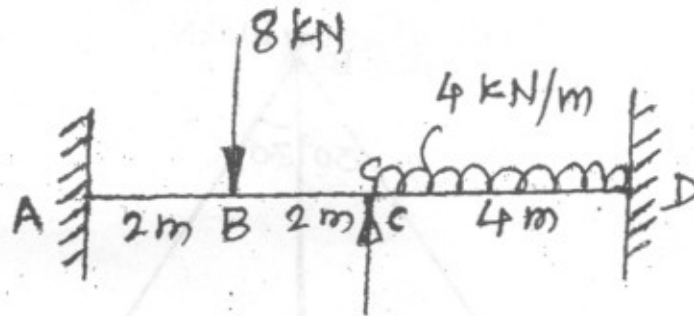

Fig. 8
4. (A) Determine the fixed end moments at A and D for the beam ACD shown in Fig. 8 and draw B.M.D. [8]